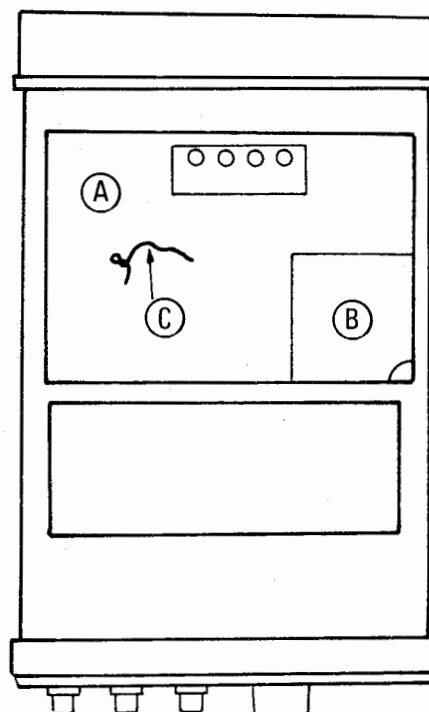

Figure 5
- (4) Locate a jumper wire on the printed board as illustrated in Fig. 5. Cut this jumper wire.